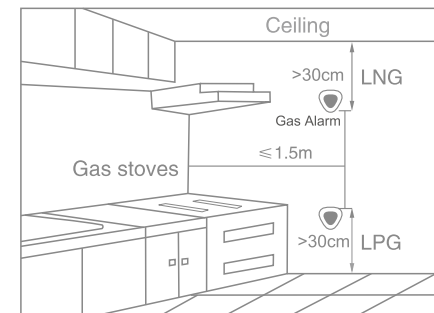

Fig. 2
The alarm should be installed at a distance from the gas source radius within 1.5M, more than 30cm below the ceiling for methane (like LNG), or more than 30cm above the floor for propane and butane (like LPG) (see Fig. 2).
• Near cookers (may lead to alarms produced by cooking vapors not gas escapes, and contamination by grease that may impede correct operation of the alarm).cm of the floor for petroleum gas or LPG (see Fig. 2).